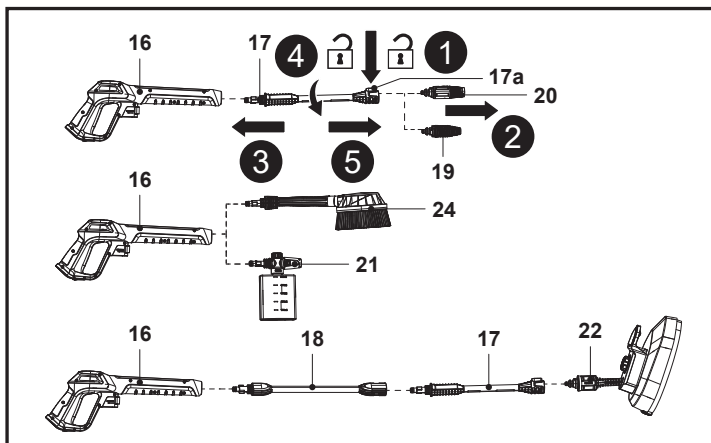

Fig. 6
**NOTE:** When two components are connected correctly, they cannot be separated by directly pulling them out. All spray gun accessories must be inserted into the spray gun (16) for proper use.
6. To disconnect the nozzle, press the lock button (17a) and keep it in place, then pull the assembled nozzle out (Fig. 6, steps 1, 2). Reinstall a required nozzle.
7. To disconnect the extension lance (17), push and turn it counterclockwise to remove it (Fig. 6, steps 3, 4, 5).
8. To disconnect the detergent bottle nozzle (21), rotary brush (24) or the extension pole (18) from spray gun (16), push and turn it counterclockwise to remove it. Reinstall a required spray gun accessory.